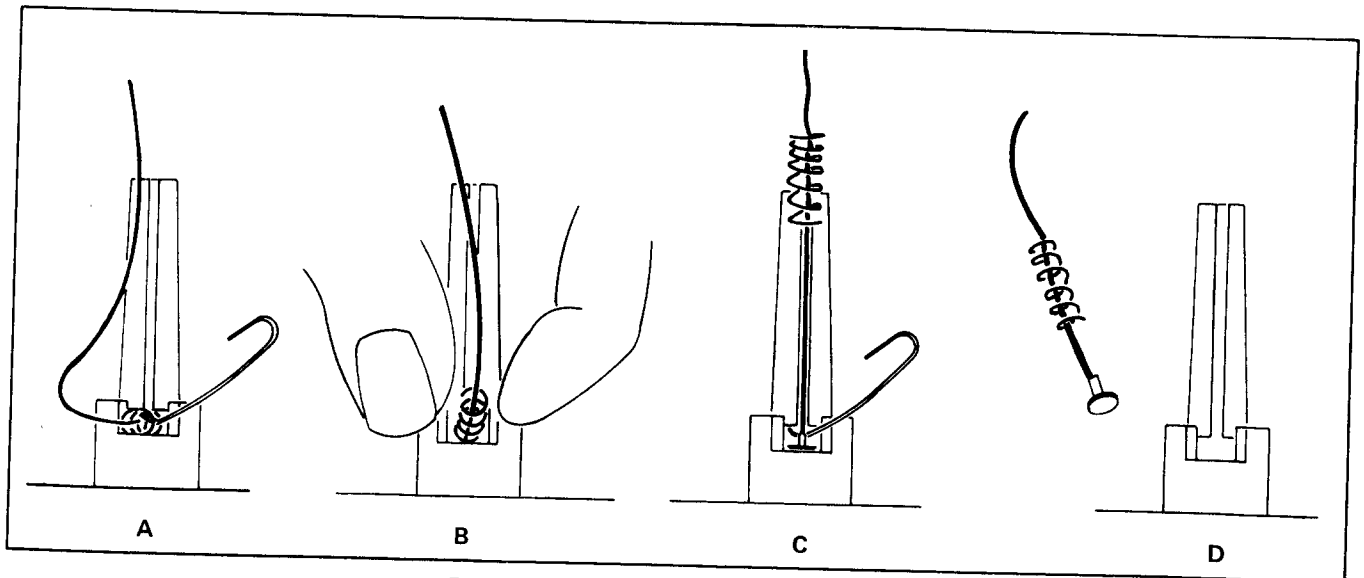

Figure 4-1. Removing the mA Input Line
4. Keep tension on the wire so that the rear end of the spring is as shown in Figure 4-1, Part A.
5. Insert the hook on the paper clip as shown in Figure 4-1, Part A. Pry gently upward until a few turns of the spring are free of the fuse holder.
6. Grasp the spring as shown in Figure 4-1, Part B and turn counterclockwise until the spring comes completely free of the fuse holder.
9. With the paper clip, pry the spring retainer free of the fuse holder as shown in Figure 4-1, Part C.
10. Pull the wire free of the slot in the fuse holder. Figure 4-1, Part D shows the mA input line free of the fuse holder.